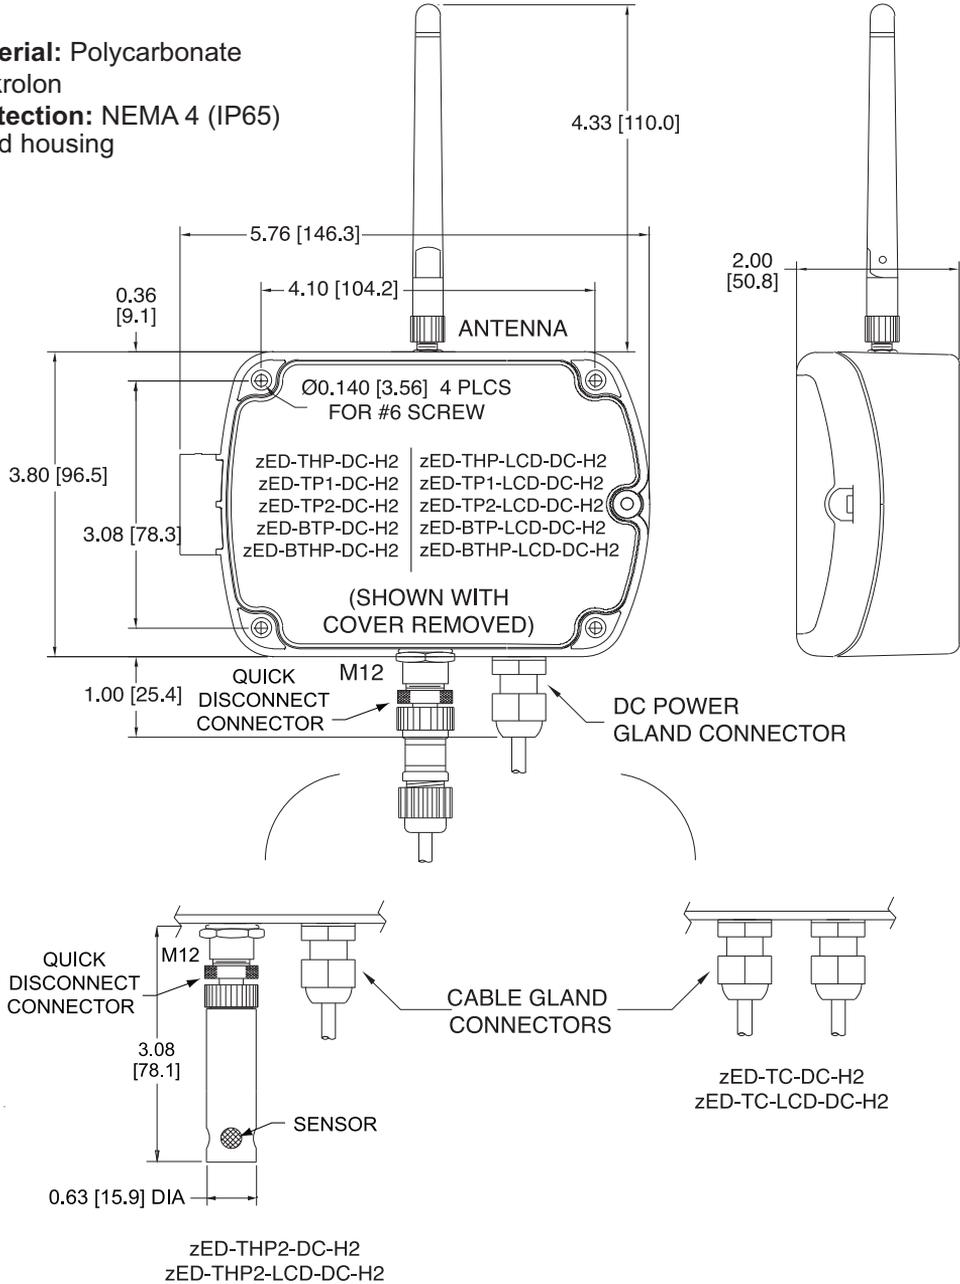

Figure 2.2b Mounting the End Device (zED-DC-H2)
11	External probe/sensor through cable gland (shown for -TC option only), or quick disconnect connector ⚠. Refer to Figure 2.2b for connector configurations.
- To mount unit to wall. Refer to **Figure 2.2b** for mounting dimensions.